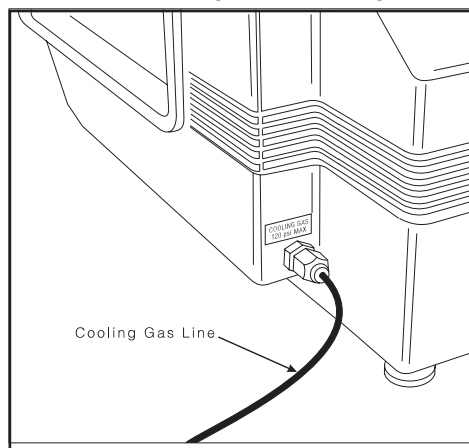

Figure 2.7
1. Locate the COOLING GAS fitting, a 1/4-inch compression fitting on the left side of the DSC 2920 CE back, marked with a 120 psi maximum warning label (see Figure 2.7).